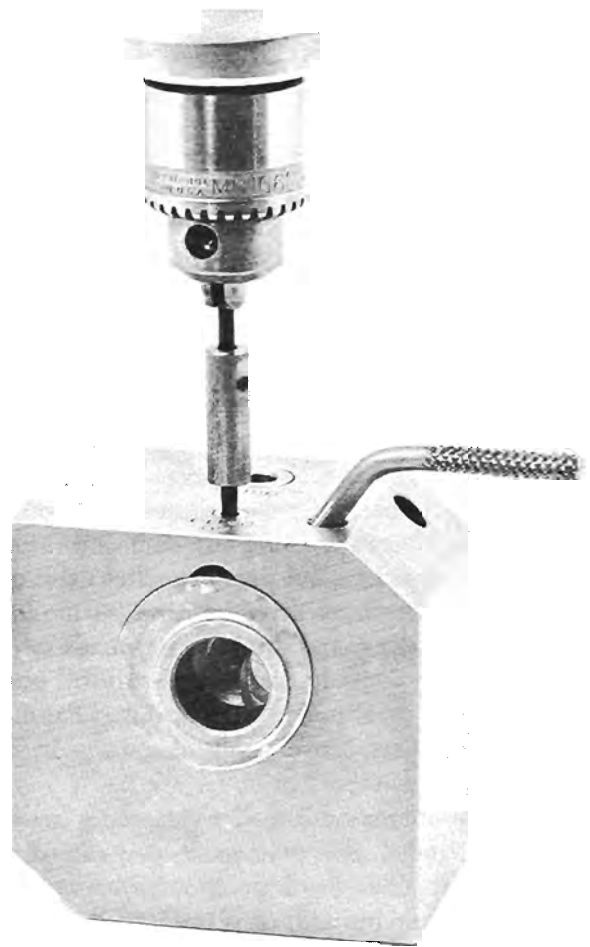

Figure 25. Drilling Adapter Assembly.
- b. Drilling adapter assembly starter jack shaft P/N 634461 (See Figure 25)